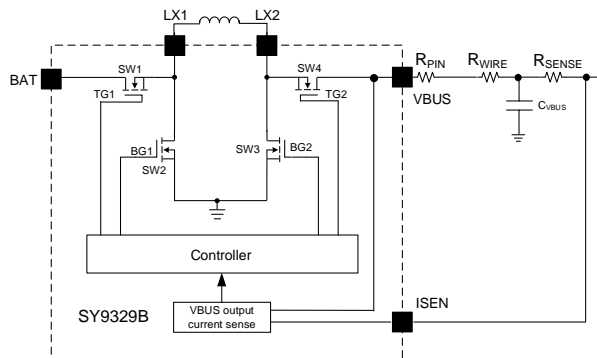

Figure5. Description of VBUS Output Current Limit
The SY9329B provides a function for VBUS output current limit by sensing the voltage drop between VBUS pin and ISEN pin (as shown in figure5). Once the voltage difference ($V_{VBUS}-V_{ISEN}$) exceeds the voltage threshold, which can be configured by register 0x02[7:5], the internal control loop will regulate the output current by decreasing duty cycle until UVP or OTP is triggered. Noticing that the effects of R_{PIN} and R_{WIRE} cannot be ignored, the actual limit current I_{LIMIT} can be calculated as given in Equation (2):